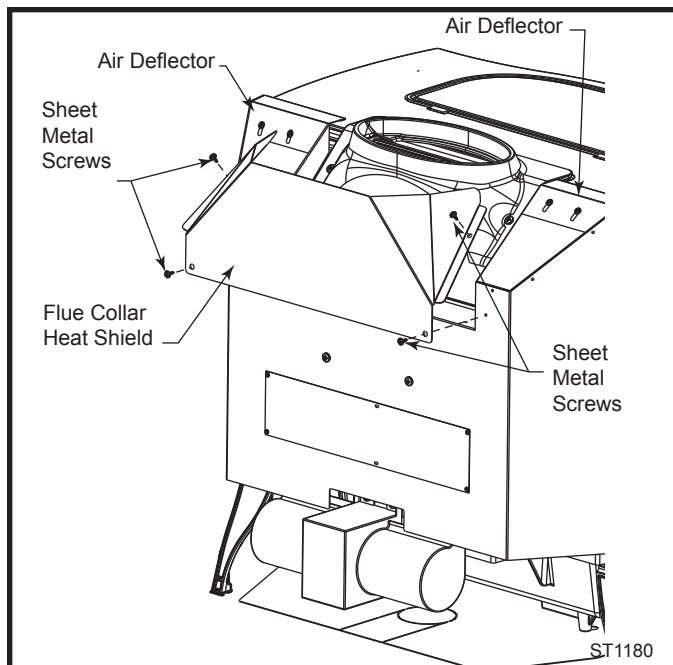

Fig. 23 Install flue collar heat shield.
If you have the optional fan kit, you may decide to adjust the air deflector to blow heat across the top of your stove. (Fig. 23) Loosen the two (2) screws on each side and raise or lower the deflector. After adjustment, tighten the screws.
WARNING: The flue collar heat shield must be attached to the Encore stove. Use four #10 sheet metal screws supplied to secure the flue collar heat shield to the rear of the stove. (Fig. 23)